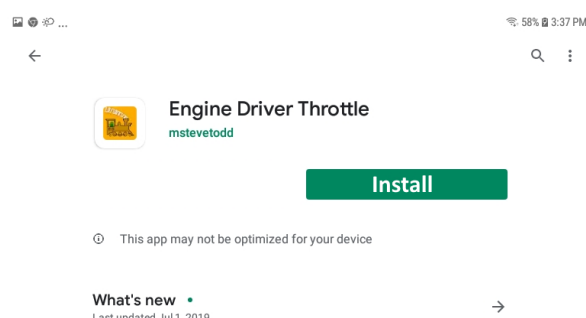

Figure 12 The Engine Driver Throttle detail page in the play store
- d. Tap the Install button (Figure 12). The app downloads and install on your device. Do not open the app until after the next steps.